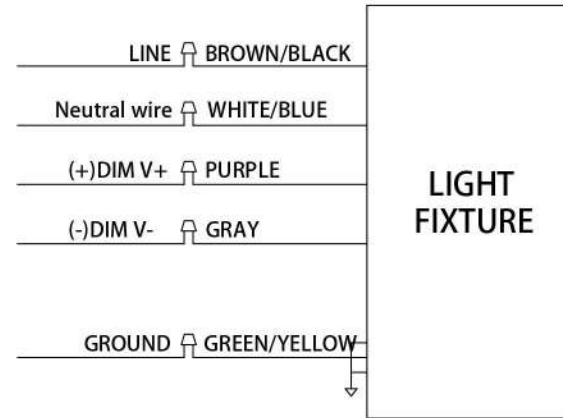

Figure-4 (Wiring diagram)
1. Connect the municipal wire in the NPS screw with the lamp input wire, as shown in Figure-4.
2. Connect the cable of the lamp to the municipal wire, as shown in Figure-4, then make the seals waterproof.